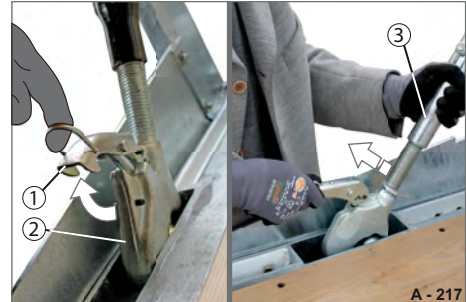

Fig. 56 Unlocking the securing rod (bottom)
► Hold the securing rod (Fig. 56/3) firmly and pull the arrester (Fig. 56/1) upwards.
The hook (Fig. 56/2) is unlocked and the securing rod released.